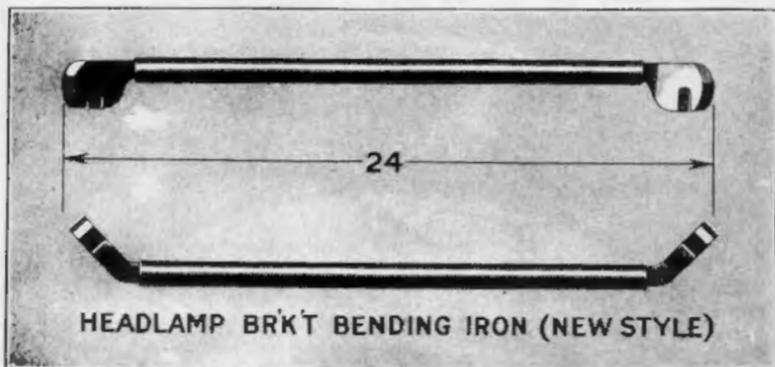

Fig. 538
**1158** The headlamps are aligned after they are assembled to the car by bending the headlamp brackets as follows: (A new type bending iron is used, details of which are shown in Fig. 538).